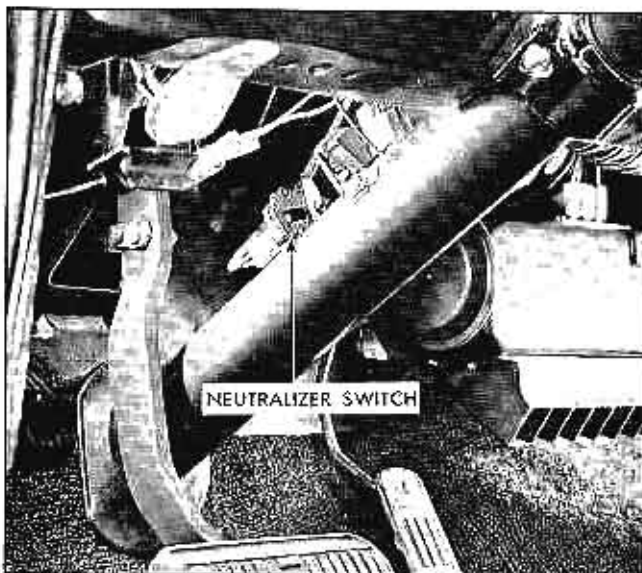

Fig. 37 Neutralizer Switch
2. Loosen switch mounting screw (Fig. 37).